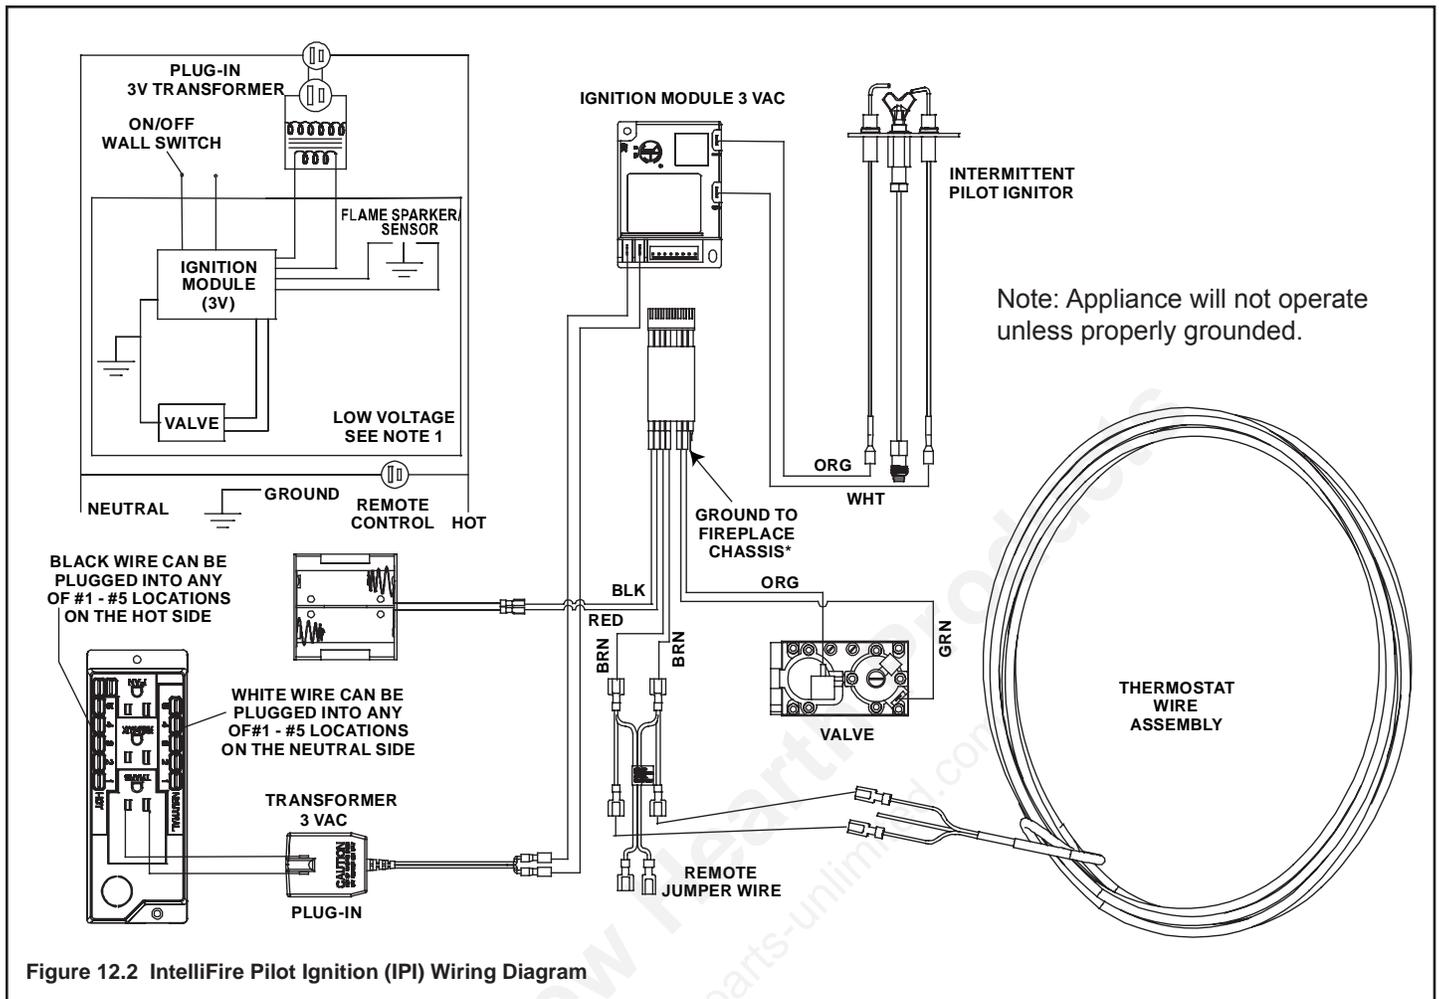

Figure 12.2 IntelliFire Pilot Ignition (IPI) Wiring Diagram
- Refer to Figure 12.2, IntelliFire Pilot Ignition (IPI) Wiring Diagram.